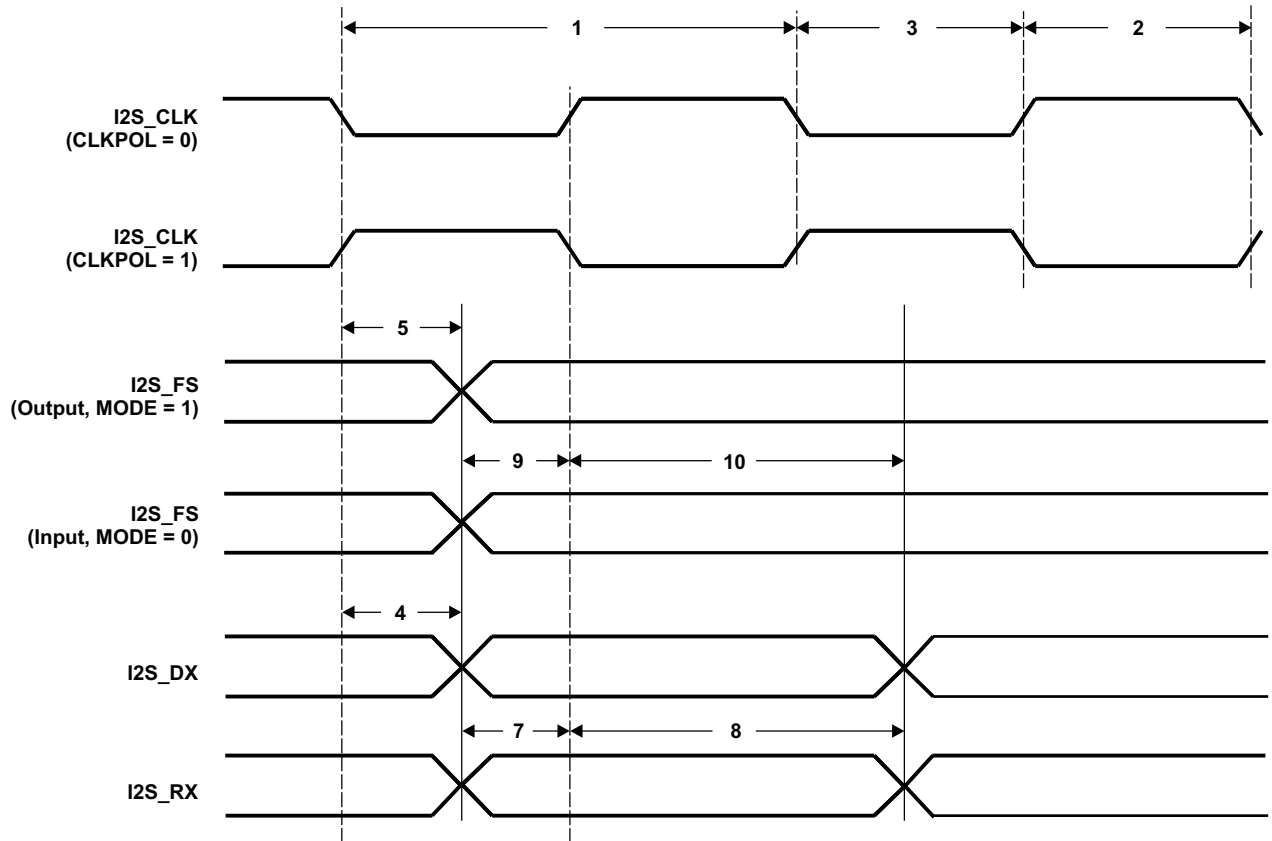

Figure 5-30. I2S Input and Output Timings
**Table 5-36. Timing Requirements for I2S [I/O = 3.3 V, 2.75 V, and 2.5 V](1) (see Figure 5-30)**
(1) P = SYSCLK period in ns. For example, when the CPU core is clocked at 100 MHz, use P = 10 ns.
(2) Use whichever value is greater.
(3) In Slave Mode, I2S\_FS is required to be latched on both edges of I2S input clock (I2S\_CLK).
**Table 5-37. Timing Requirements for I2S [I/O = 1.8 V](1) (see Figure 5-30)**
[I/O = 3.3 V, 2.75 V, or 2.5 V] (see Figure 5-30)
[I/O = 1.8 V] (see Figure 5-30)**